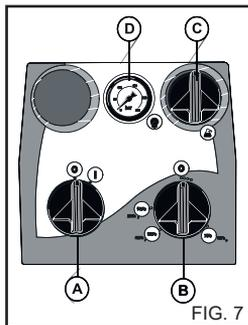

FIG. 7
Turn the thermostat knob "B" (fig. 7) to steam position to obtain an increase in the temperature of the water at delivery.
**During use with boiling water, "Steam Phase", keep away from the openings for fumes discharge (risk of burning). When you have finished using the "Steam Phase", turn the thermostat knob "B" to position "0" (fig. 7) and let the machine cool down for about 3 minutes with the gun turned on.**